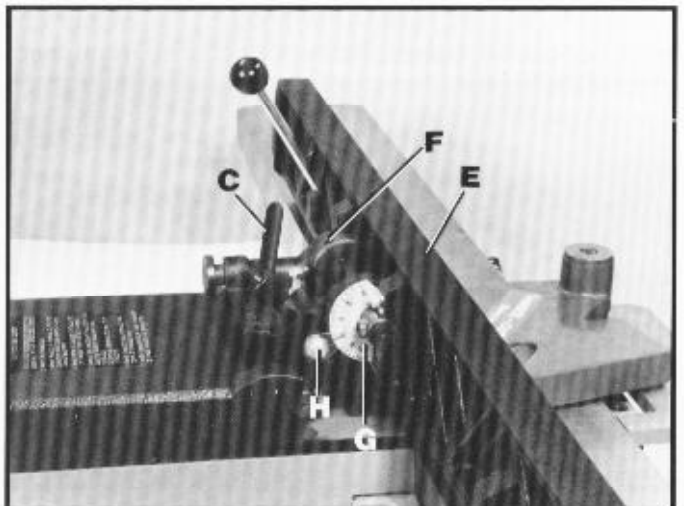

Fig. 21
1. Loosen set screw (F) Fig. 21, in the index collar and loosen the fence locking handle (C).
2. Tilt the fence (C) Fig. 21, until you are certain the fence is 90 degrees to the table surface; tighten lockhandle (C) and set screw (F).
3. Set the angle of tilt scale (G) Fig. 21, to the proper degree mark by loosening screw (H) and adjusting the pointer.